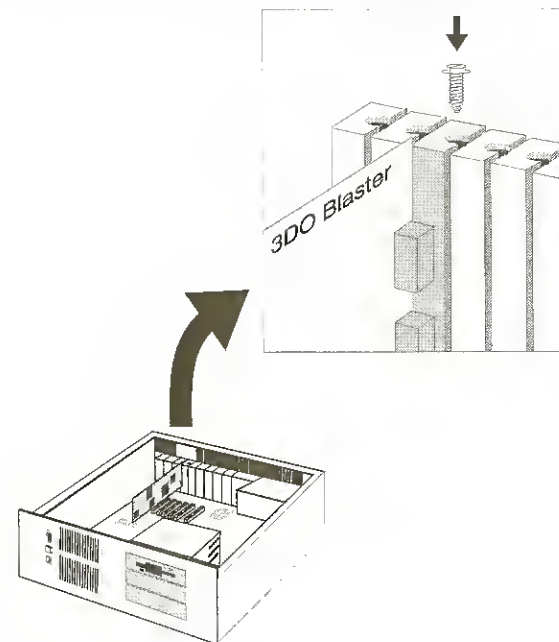

Figure 2-8: Securing 3DO Blaster.
7. Secure your 3DO Blaster to the expansion slot with the screw you removed from the metal plate as shown in Figure 2-8.